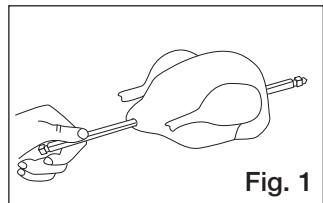

Fig. 1
1. First insert the rotisserie spit into the food for rotisserie (Fig 1).